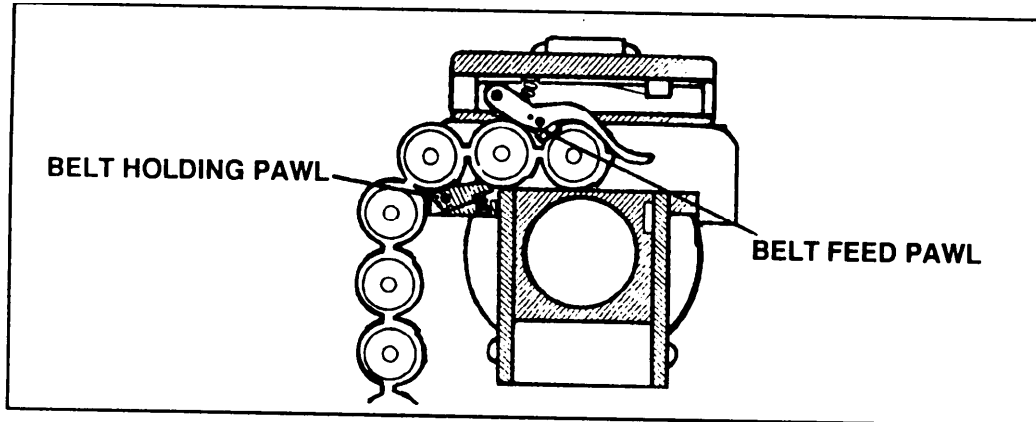

Figure 3-7. Feeding – step 3.
(2) As the bolt moves forward, the belt-feed slide is moved back into the receiver, pulling with it the next linked cartridge. When the bolt reaches the fully forward position, the belt-holding pawl will snap into place behind the second linked cartridge (Figure 3-7), holding it in place. The extractor will then grasp the rim of the first cartridge, preparing to release it from the belt on the next rearward motion (Figure 3-8).